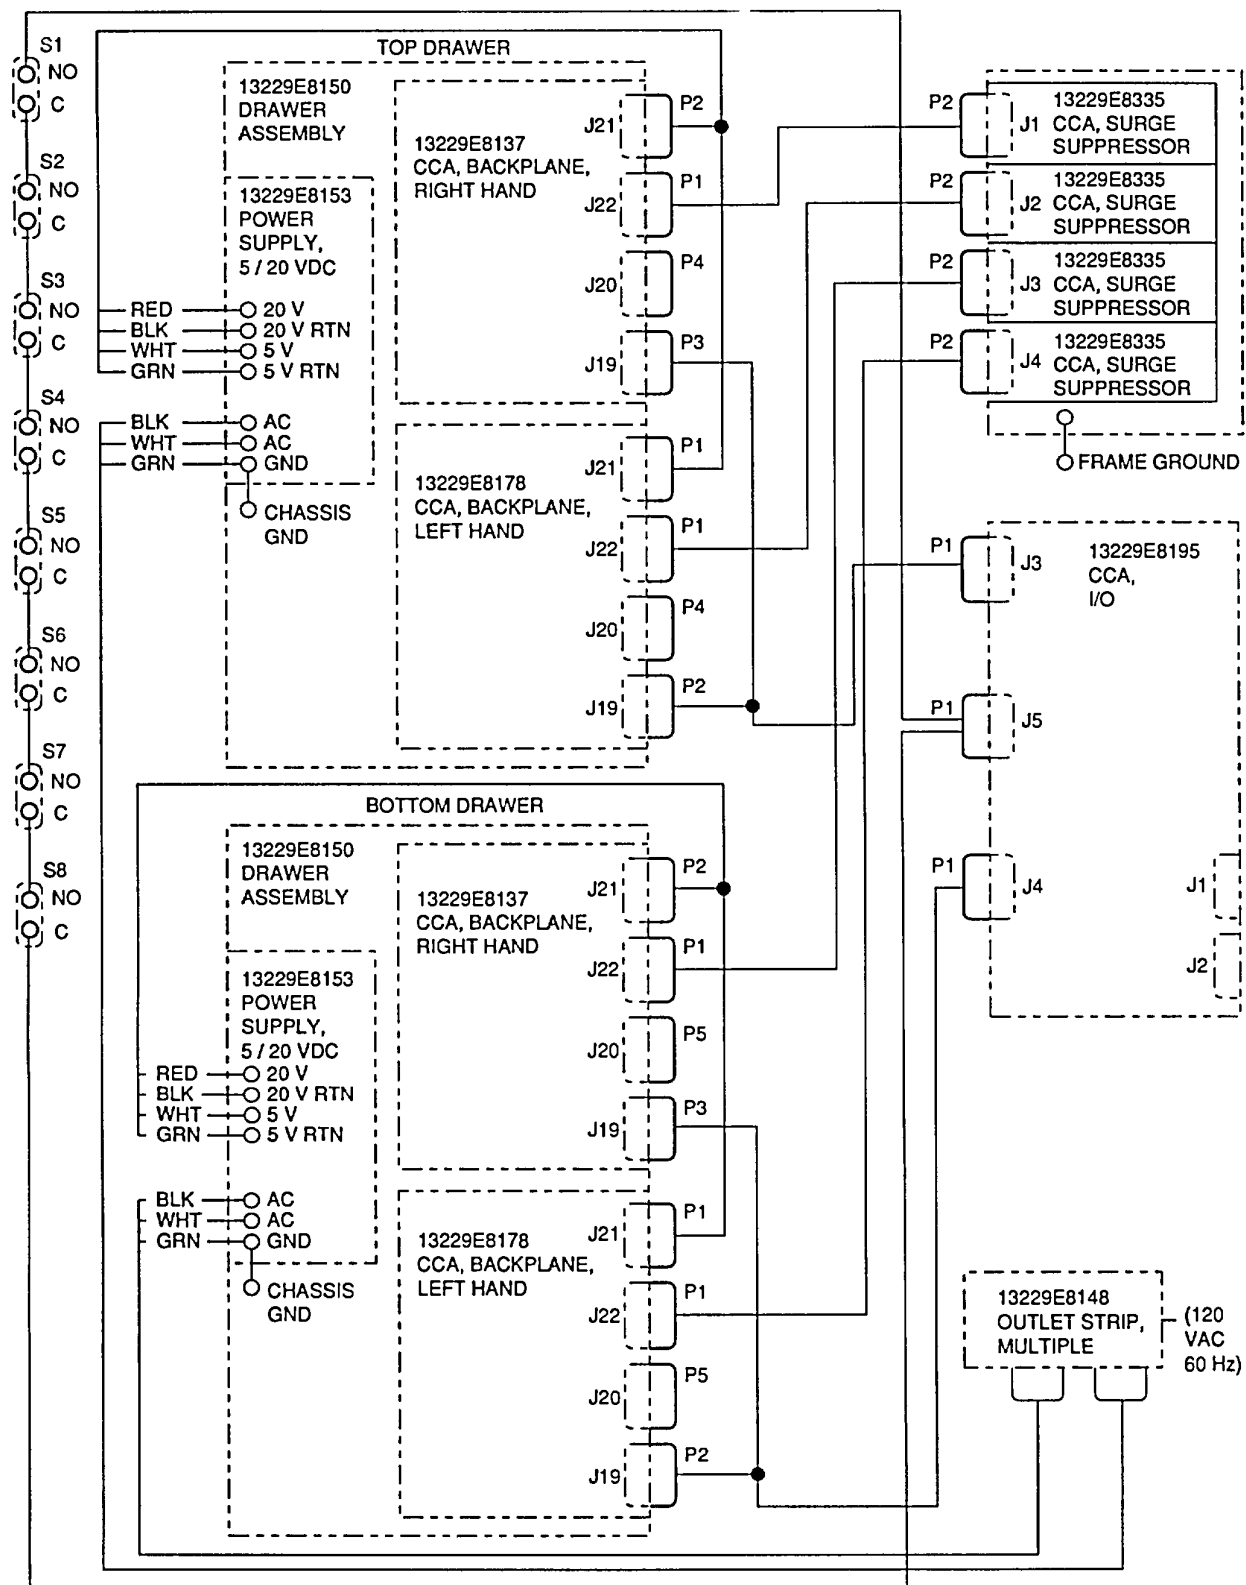

Figure 4-4. Converter Multiplexer Assembly.
- a. Refer to figure 4-4 in Tables 4-6 through 4-10. Using multimeter, check each wire for continuity.
- (1) Position switch in mid position and tag and remove electrical leads.
- (2) Using multimeter, measure resistance across switch at OPEN and COMMON terminals. Reading on meter should be open circuit.
- (3) While holding switch in depressed position, measure resistance across switch at OPEN and COMMON terminals. Reading on meter should be short circuit.
- (4) Pull switch out to maintenance position (all the way out).
- (5) Measure resistance across switch. Reading on meter should be short circuit.